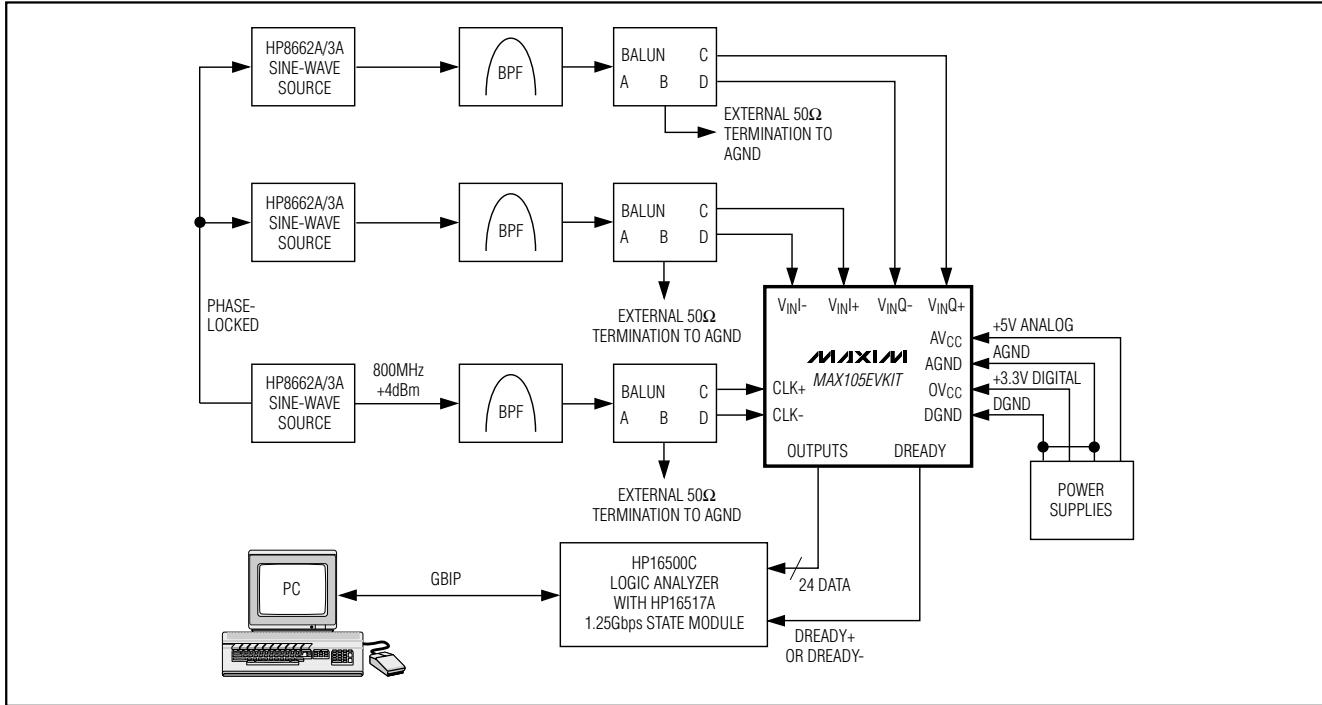
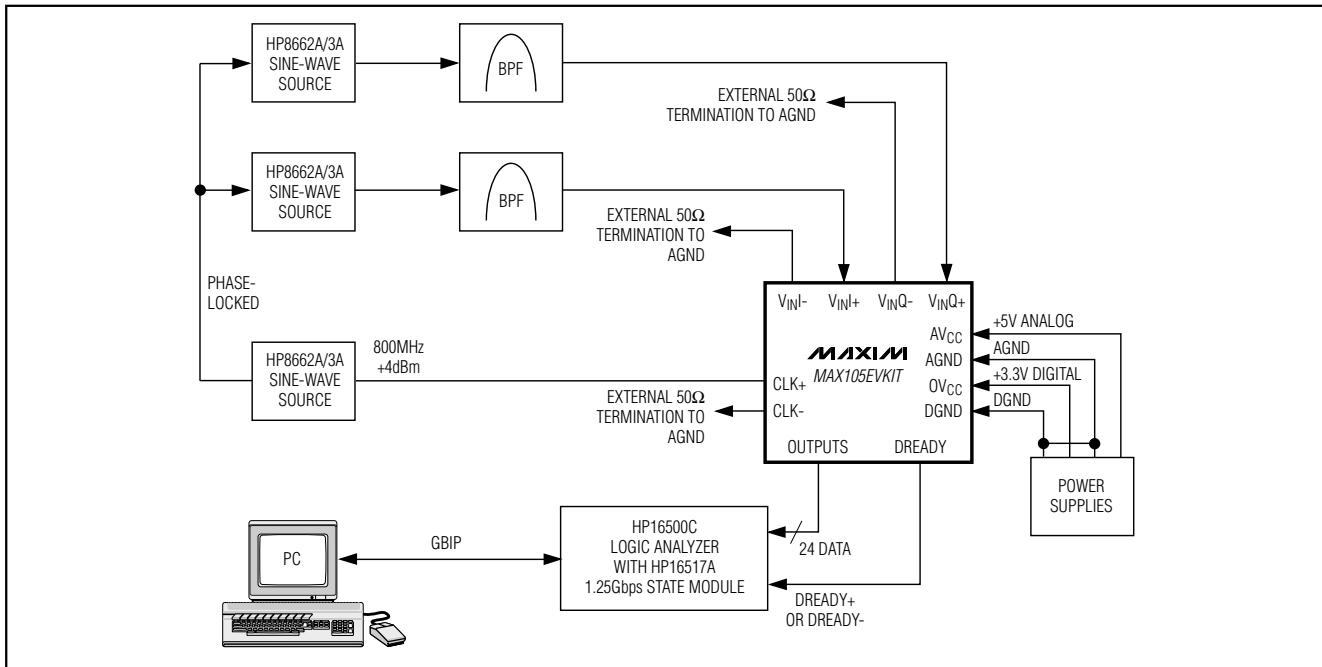

Figure 1. Typical Evaluation Setup with Differential Analog Inputs, Differential Clock Drive, and Single-Ended Data Capture
Figure 2. Typical Evaluation Setup with Single-Ended Analog Inputs, Single-Ended Clock Drive, and Single-Ended Data Capture
- 1) Connect a signal generator with low phase-jitter to the clock inputs CLK- and CLK+ through a balun (Figure 1). For a single-ended clock input (Figure 2), connect a 500mV (354mVRMS, +4dBm) amplitude from the signal generator to the CLK+ input and terminate the unused CLK- input with a 50Ω termination resistor to AGND.
- 2) For differential operation, connect a $\pm 380mV$ 270mVRMS (approximately -0.5dB FS) sine-wave test signal to connector A of the balun. Terminate connector B of the balun with a 50Ω terminator. Attach connector C of the balun to the analog input VINI+ (VINQ+). Attach connector D of the balun to the analog input VINI- (Figure 1). For single-ended operation, apply the test signal to either VINI+ (VINQ+) or VINI- (VINQ-) and terminate the unused input with a 50Ω resistor to AGND (Figure 2). For best results, use a narrow bandpass filter designed for the frequency of interest to reduce the harmonic distortion of the signal generator.